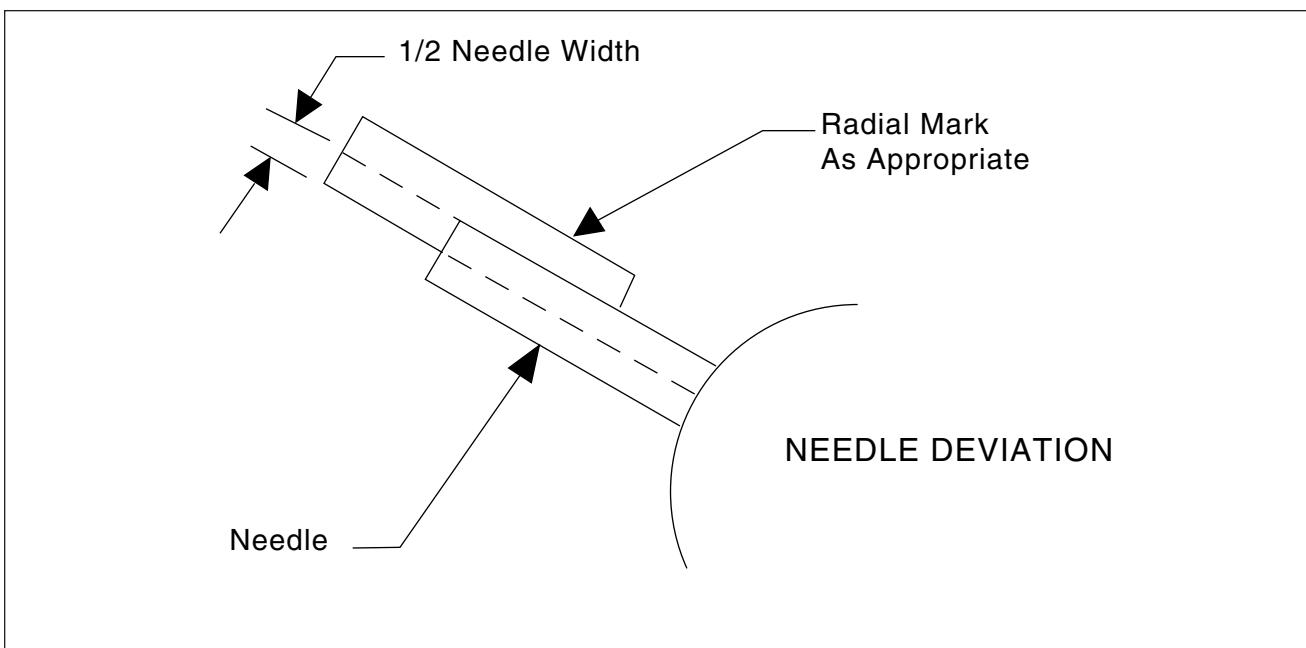
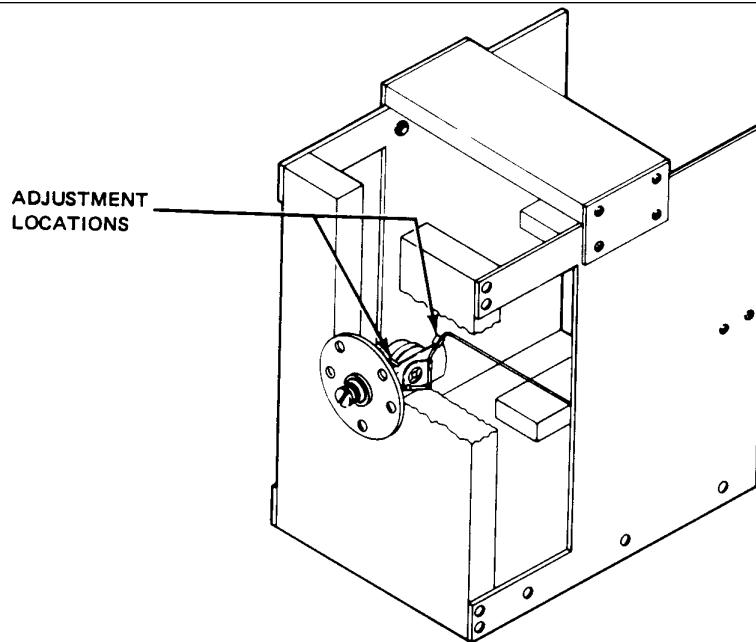

Figure 28-9. Archer III Fuel Quantity Needle Deviation
Figure 28-10. Fuel Quantity Transmitter Checking Jig
1. Archer II 14 Vdc Fuel Quantity Transmitter Check. (Piper P/N 486 520) (Refer to Figure 28-9.)
- (1) Fasten unit to a fabricated checking jig with washer and nuts. (Fabricate jig per Figure 28-10 dimensions.)
- (2) Check with the float arm down against mechanical stop on transmitter, the float is just touching base of jig. (Float may be to 0.18 inch above base.) If float does not touch the base or float arm is not against bottom stop, adjust float assembly arm stop by bending it per Figure 28-9. The entire surface of float must be horizontal with the jig base.
- (1) Fasten unit to a fabricated checking jig with washer and nuts as shown in Figure 28-9. (Fabricate jig per Figure 28-10 dimensions.)
- (2) Check with the float just touching the top of a 0.27 inch spacer back, the resistance of the sending unit is 3 ohms, \pm 0.5 ohm. If the resistance of the sending unit is not in this range, adjust arm of the float assembly by **gently** bending it as shown in Figure 28-9. The entire float **must** be **kept horizontal** to the **base** of the fixture.